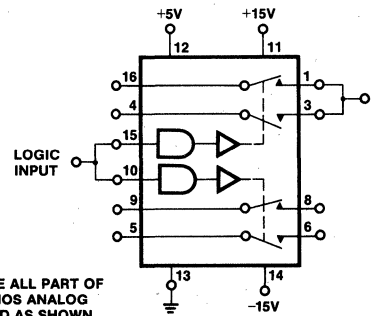

Figure 3B.
*SW₁, SW₂, & SW₃ ARE ALL PART OF A SINGLE IH5043 CMOS ANALOG SWITCH CONNECTED AS SHOWN IN FIGURE 3B